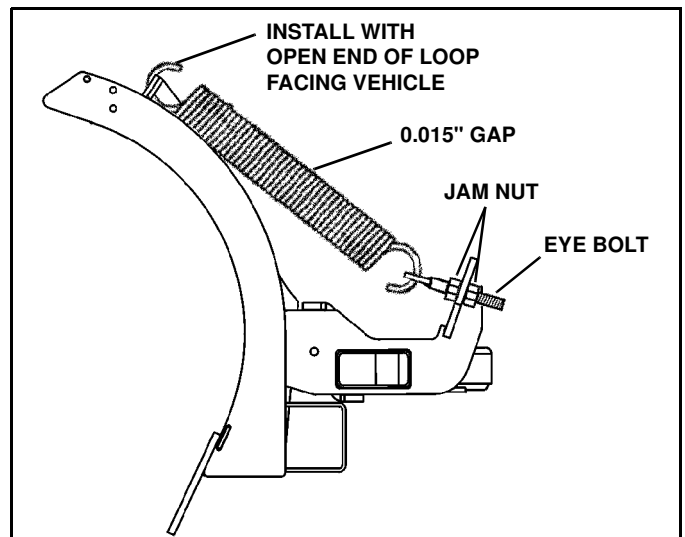

Figure 2-4
- a. **26 SERIES BLADE:** Remove the springs from the power pack carton. Hook springs onto blade with open end of loop facing up. (See Figure 2-4).
- b. Install a nut on the eye bolt until fully seated and hook the bolt onto the free end of the spring. Insert the eyebolt on each side of the blade into the outside hole on the swing frame spring bracket. Loosely install a second nut on the eye bolt. (See Figure 2-4).